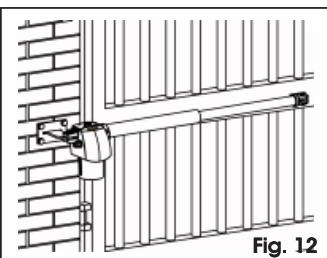

Fig. 12
**⚠ The G-BAT operator is available in both right and left versions. The operator must always be positioned as shown in Fig.12. The right hand operator is the operator which, by looking at the gate from the side where the operator is installed, is located on the right of the leaf (or on the right leaf in the case of 2-motor applications). Consequently, the motor on the left (or on the left leaf) is identified as the left operator.**